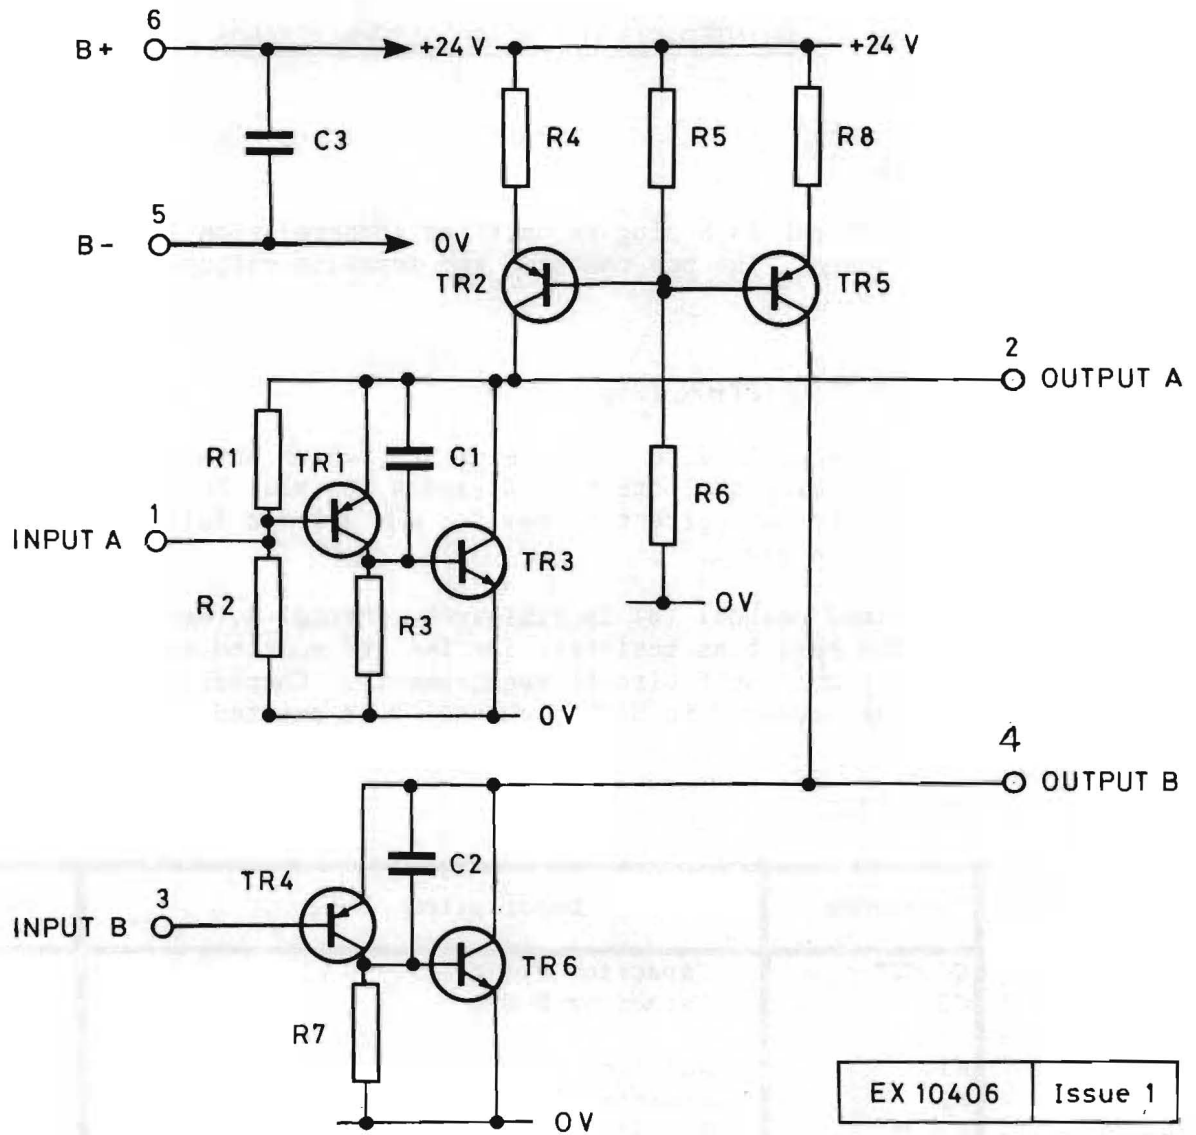

Fig. 1 Circuit Diagram BA 406
2. CIRCUIT DESCRIPTION (Fig. 1)